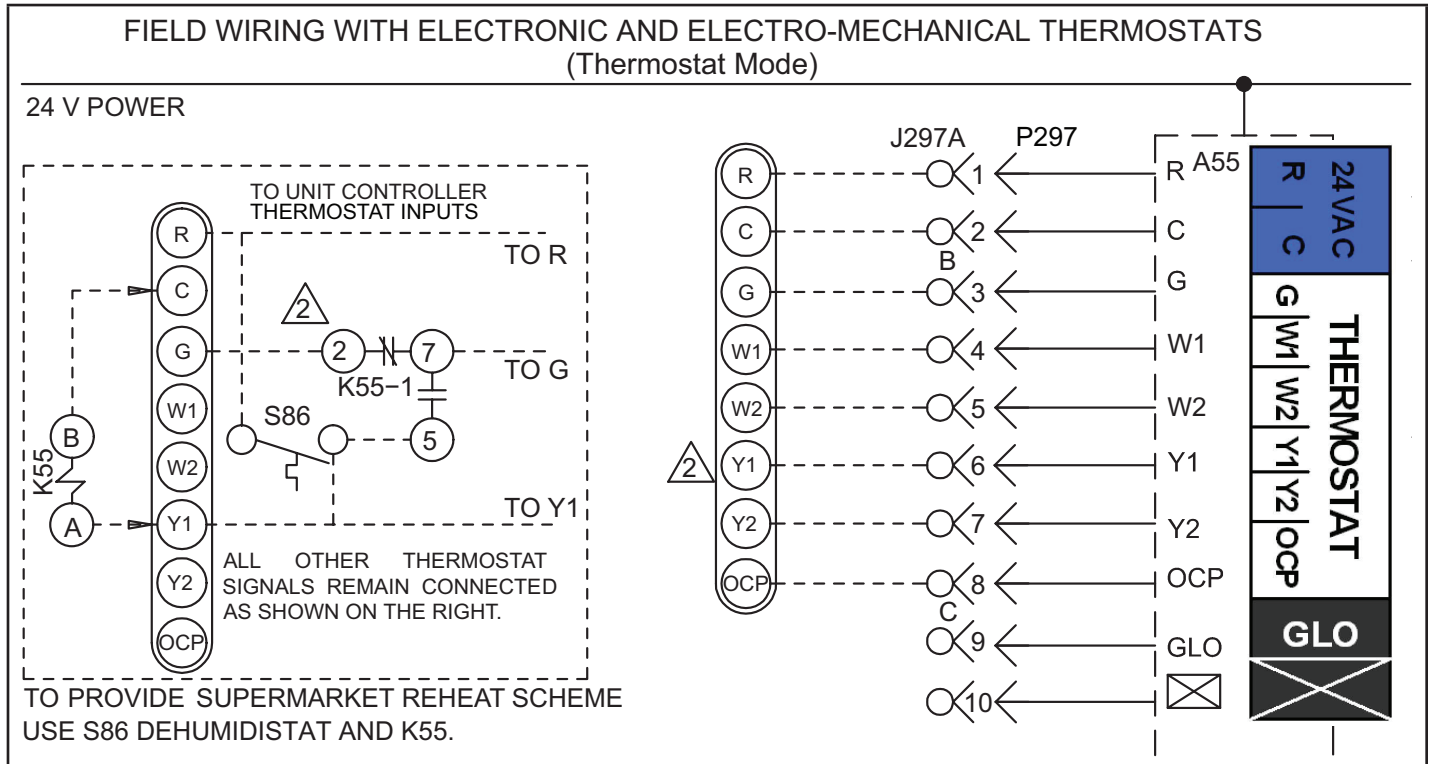
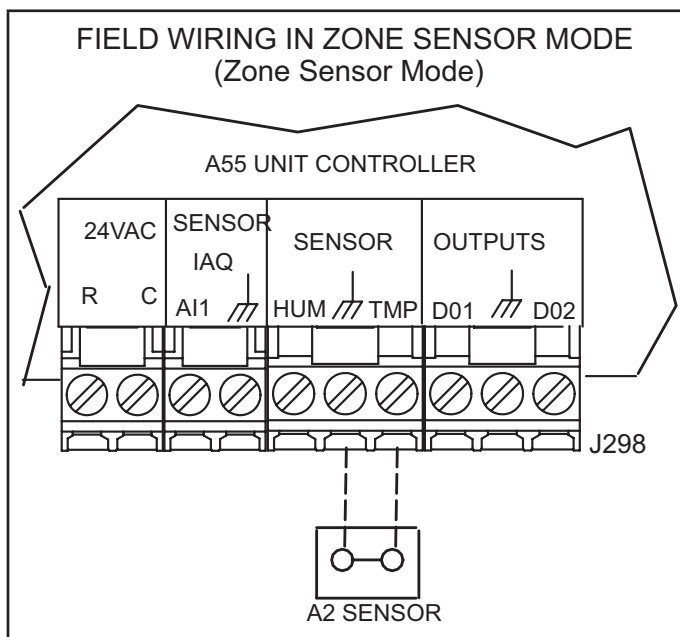
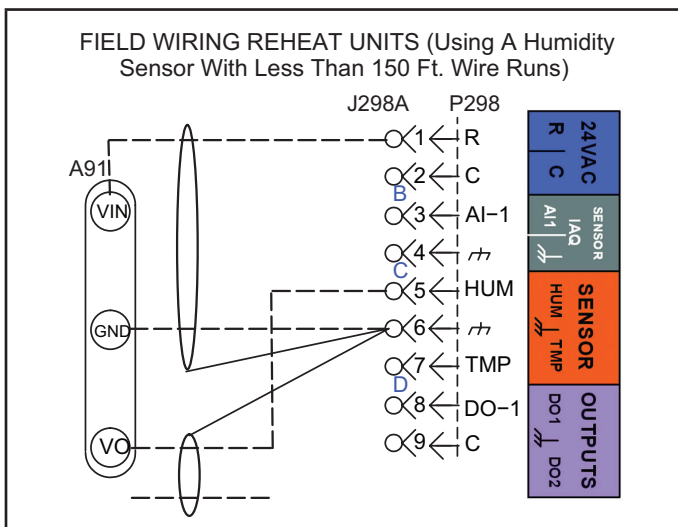

FIGURE 12
FIGURE 13
FIGURE 15
- 1 - Default Thermostat Mode - The Unit Controller will operate two stages of heating and cooling based on thermostat demands. Install thermostat assembly in accordance with instructions provided with thermostat. See FIGURE 12 for field wiring and wiring diagrams on unit.
Control Panel (NCP) can also be used to provide setpoints. A thermostat or return air sensor can be used as a back-up mode. Make zone sensor wiring connections as shown in FIGURE 13.
- 2 - Make wiring connections as shown in FIGURE 12 for Thermostat Mode or FIGURE 13 for Zone Sensor Mode. In addition, connect either a humidity sensor or a dehumidification input. See FIGURE 15 or FIGURE 16 for humidity sensor wiring or FIGURE 17 for dehumidification input wiring.
Use two separate shielded cables containing 20AWG minimum, twisted pair conductors with overall shield. Belden type 8762 or 88760 (plenum) or equivalent. Connect both cable shield drain wires to the Unit Controller as shown in FIGURE 15.
Use two separate shielded cables containing 18AWG minimum, twisted pair conductors with overall shield. Belden type 8760 or 88760 (plenum) or equivalent. Connect both cable shield drain wires to the Unit Controller as shown in FIGURE 15.